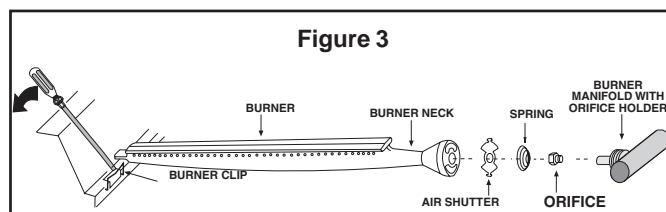

Figure 3
c. Using a flat blade screwdriver, pry the burner retaining clip from rear wall of the barbecue frame (see Figure 3). Remove the burner by; 1) Pulling it to the front of the barbecue, 2) Lift the far end out of the notch, 3) Pull the burner away from the manifold, taking care not to lose air shutter and spring, which may become detached when the burner is removed.
f. After checking orifice drill size or replacing the orifice, install the air shutter spring and the air shutter over the orifice holder fitting, between the burner and the burner manifold, in the order and position shown in Figure 3.
Fire Magic Burners are constructed of heavy-duty cast stainless steel (cast brass and porcelainized cast iron burners are also available) and will withstand many years of outdoor use, if ordinary precautions are taken. Once or twice a year inspect the burners and determine if scale is building up excessively. Burners can be removed and scraped to remove debris or scale from ports. Spray cast iron with vegetable oil occasionally to inhibit oxidation. Replace burners immediately if they show any signs of weak or thin walls. Refer to the bottom of page 4, Figure 3 for installing burners.